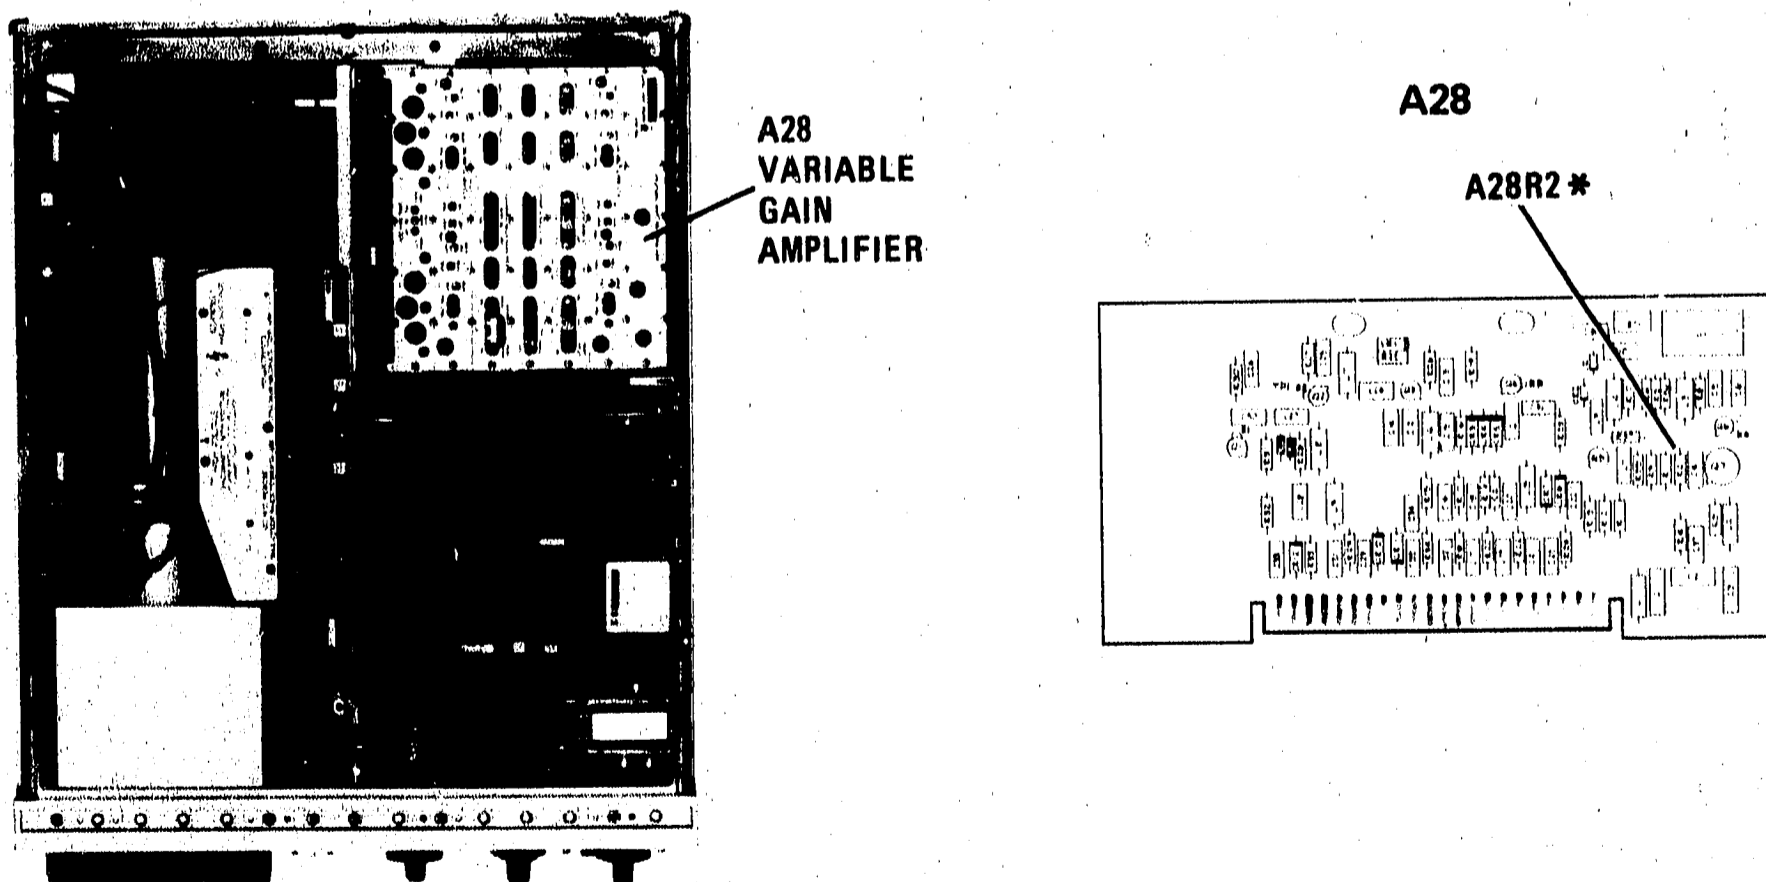

Figure 5-61. Absolute Amplitude Calibration Adjustment Locations
5. Note distance of signal peak (in dB) from third horizontal graticule line from the bottom of display. For every dB signal peak is separated from this graticule line, change value of factory-selected resistor A28R2\* (Figure 5-61) by 10 percent. (An increase in resistance increases signal level.) When signal is within 1 dB of graticule line, proceed to step 6.